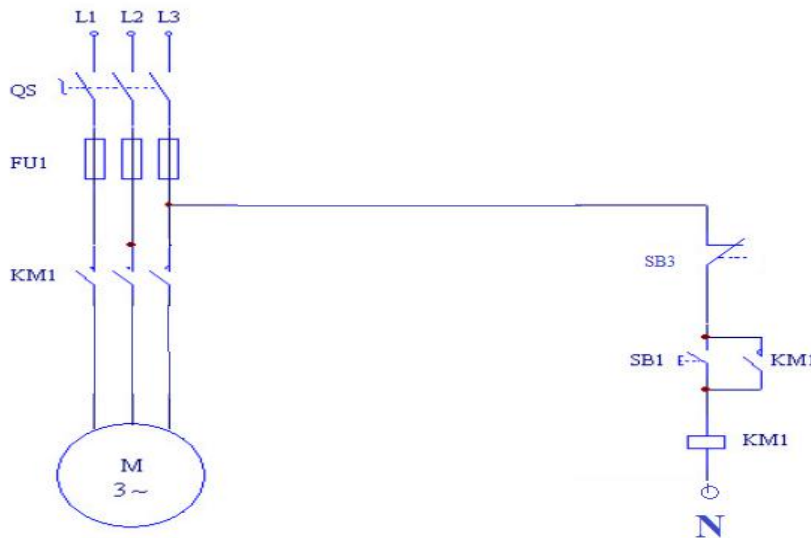

Fig. 1.1.2
The wiring diagram of the self-locking control circuit of the three-phase asynchronous motor is shown in Figure 1.1.2
- 2) Connect three-phase AC motor to a star or a triangle first, and then connect according to Figure 1.1.2